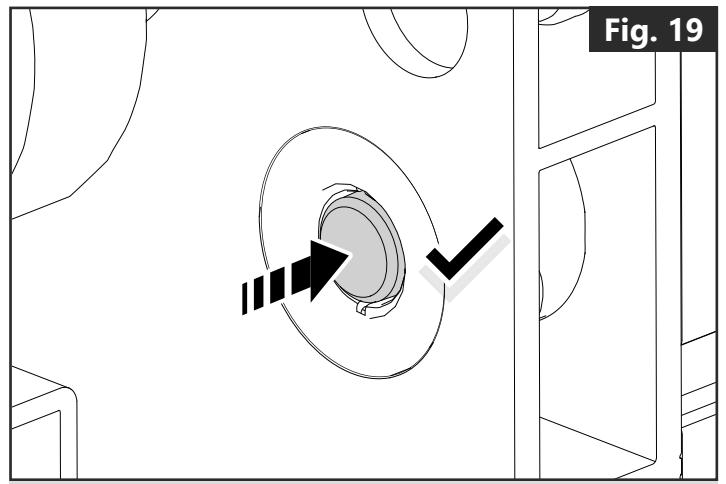

Fig. 19
- The locking pins - located at the back of the deck (**Fig. 19**) - should retract completely when the deck handle pulled. If the locking pins do not retract completely, tighten the wire connector underneath the deck (**Fig. 20**) until the locking pins retract completely again.